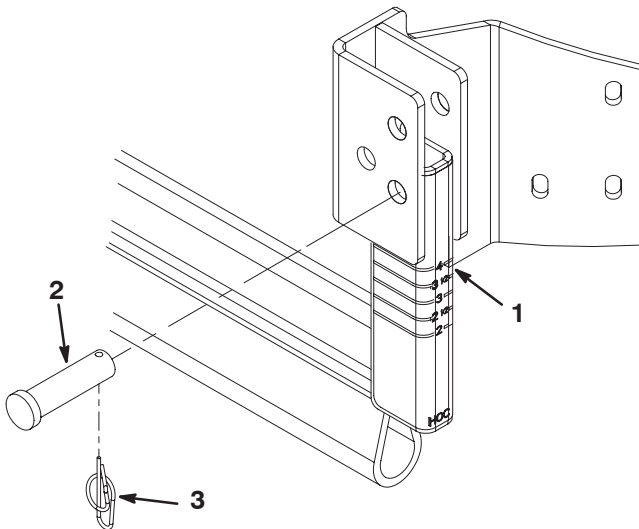

Figure 4
4. Adjust the striper bar up or down to desired operating height (Fig. 4). Align the bottom of the bracket with the line on the decal which represents the cutting unit height of cut.
5. Secure each end of the bar to the brackets with a clevis pin and a ring pin (Fig. 4).